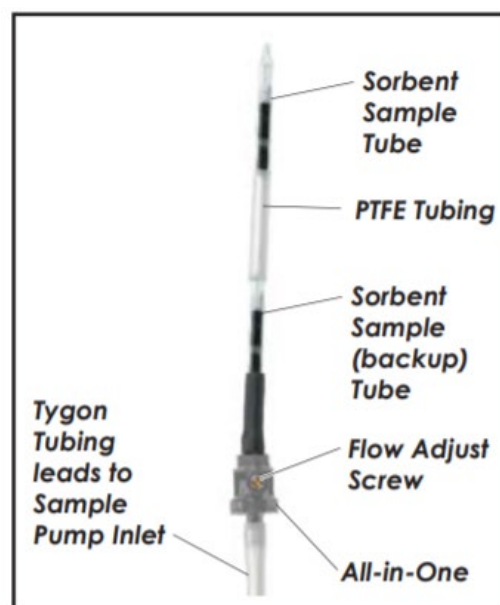

Figure 1. Two tubes in series with All-in-One low flow adapter/holder
2. Setting Up the Flow Rate Verification Train with All-in-One Low Flow Adapter/Holder — Figure 1
Allow the pump to equilibrate from one temperature extreme to another and to run for 5 minutes before flow rate verification. To verify the flow rate, connect the exposed end of the outer representative sorbent tube to a flowmeter. Verify that the flow rate is as specified in the analytical method for the chemical of interest. If using an All-in-One (Figure 1), use the flow adjust screw on the holder to adjust flow rate. See the pump and flowmeter operating instructions for flow rate verification. When the flow rate has been adjusted and verified, remove the two sorbent tubes used for flow rate verification and set them aside. These tubes will be used to verify the flow rate after sampling. Record the pre-sample flow rate.